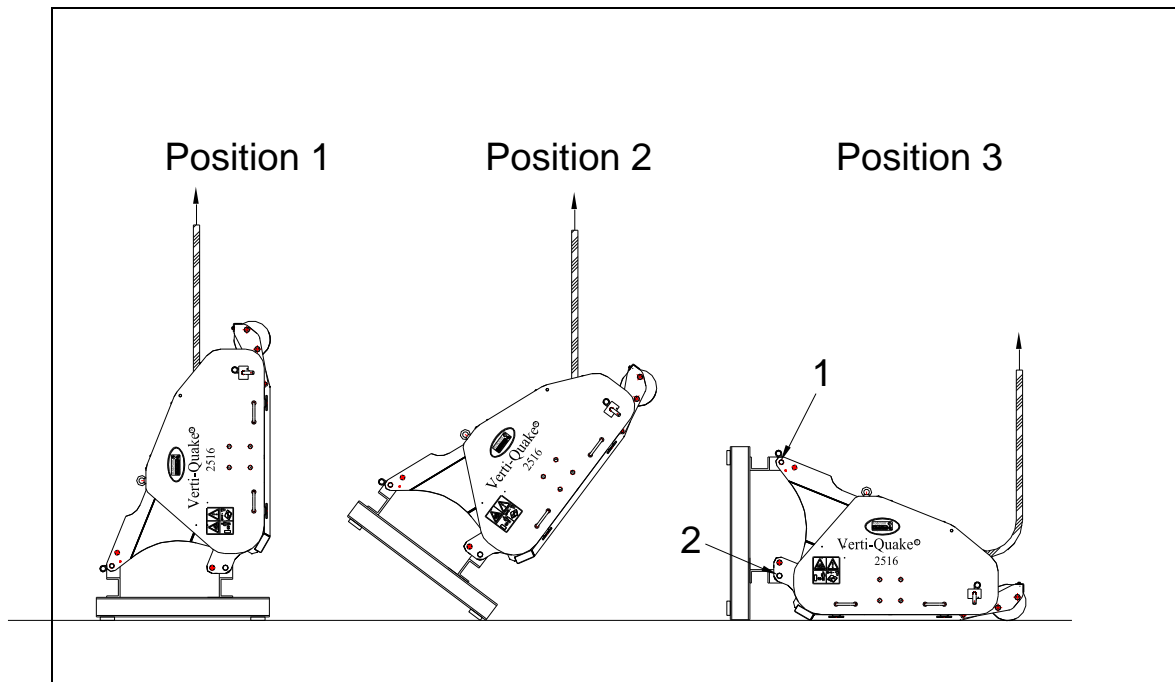

Fig. 6
The machine is located vertically on the pallet. To remove the pallet and lay the machine horizontally, carry out the following steps (fig. 6):
1. Mount a cable to the lifting points at both sides of the machine. (fig. 6 Position 1)
3. Make sure that the machine is on the point of the pallet. (fig. 6 Position 2)
4. Gently lower the machine, in a controlled way, until it fully rests upon the ground. (fig. 6 Position 3)